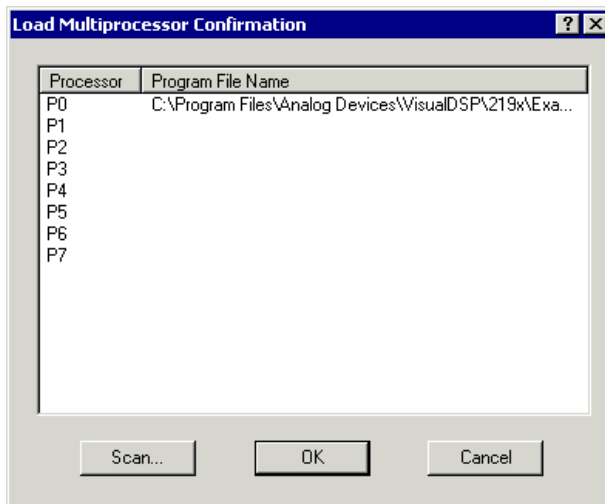

Figure 3-44. Load Multiprocessor Confirmation Dialog Box: Specifying Load `dotprodc.dxe` into Processor P0
4. Double-click `dotprodc.dxe` to open the Load Multiprocessor Confirmation dialog box, shown in Figure 3-44.